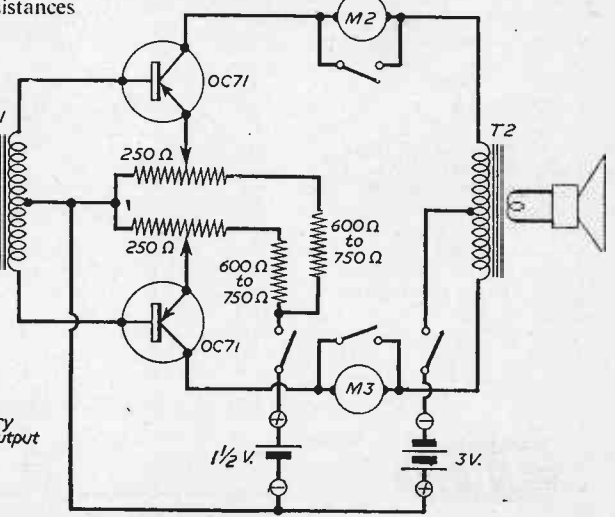

Fig. 3.—A push-pull circuit.
**Push-pull Transformer Stage (Fig. 3)**